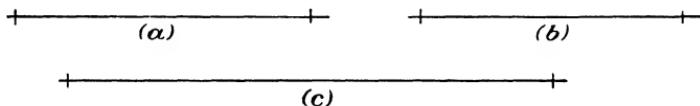

Fig. 135.
- Divide the lines in Fig. 135 into 5 equal parts after drawing them *in your notebook*. Check the results with a steel rule.